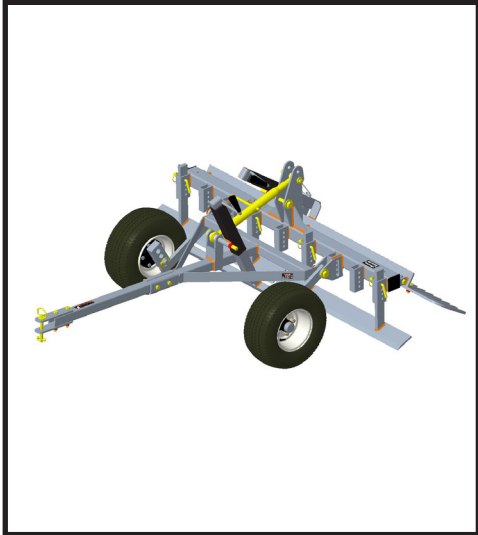

Fig 9.
11. Both people grab the Tongue and carefully lower unit back down to working position (Fig 9).